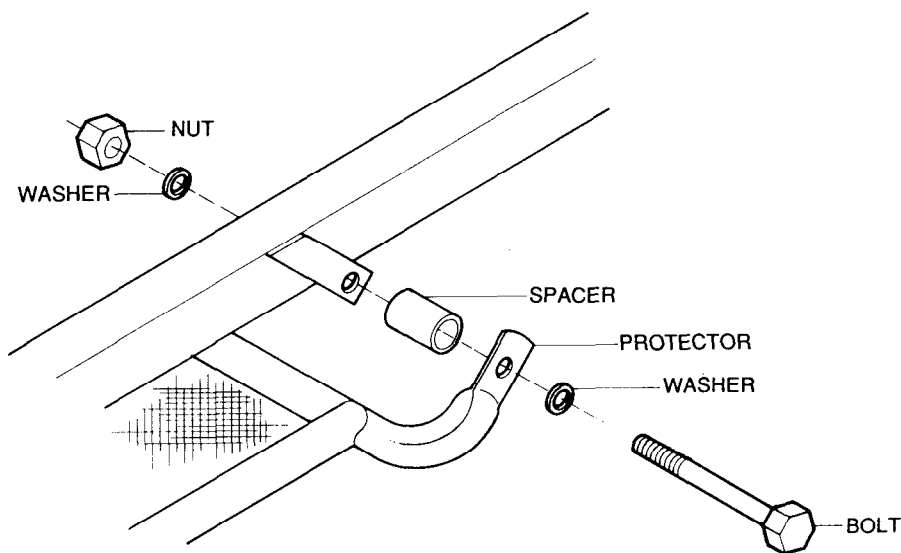

FIG 2 - LHR PROTECTOR PLATE MOUNTING
- c. Raise the rear of the protector and fit the Left Hand Rear (LHR) protector mount to the corresponding chassis mounting hole using a new bolt, nut, washers and spacer (item 3, 4, 5 and 6 from Table 1), as shown in Fig 2.